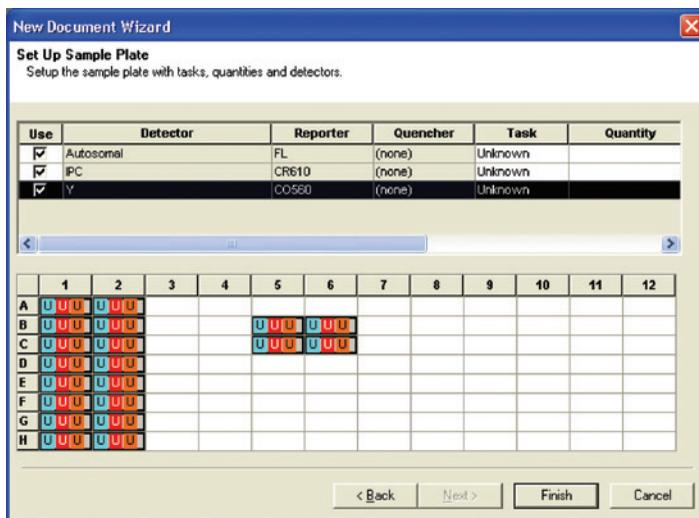

Figure 25. Selecting dyes in the New Document Wizard window.
9. In the top window, check the box for each detector (Figure 25).
10. In the bottom panel, highlight the wells that are being used (Figure 25).